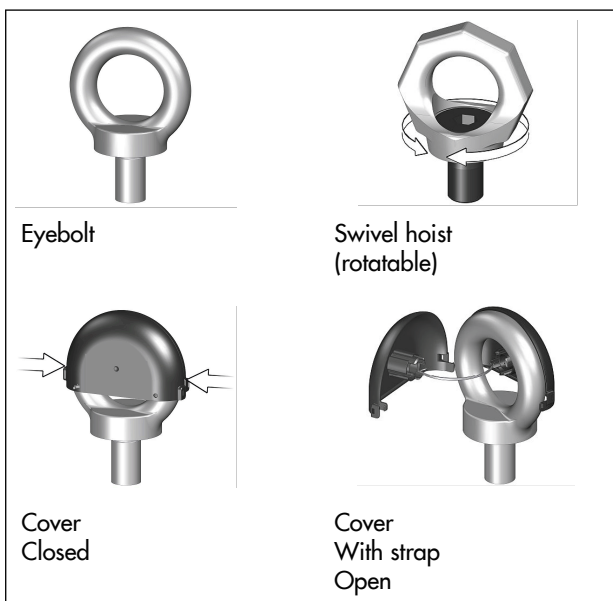

Fig. 4: Strap on eyebolt/swivel hoist
1. Open the eyebolt cover by lightly pressing the side clips and remove it (see Fig. 4).
6. Remove slings after mounting and replace the cover on the eyebolt (see Fig. 4).